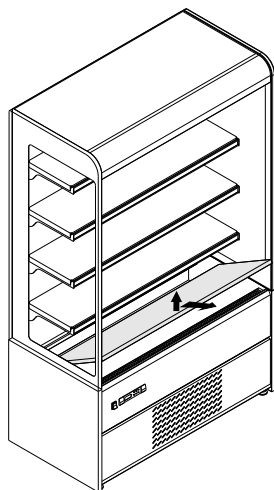

Fig.19
- Remove the top of the display shelf (See fig.19)